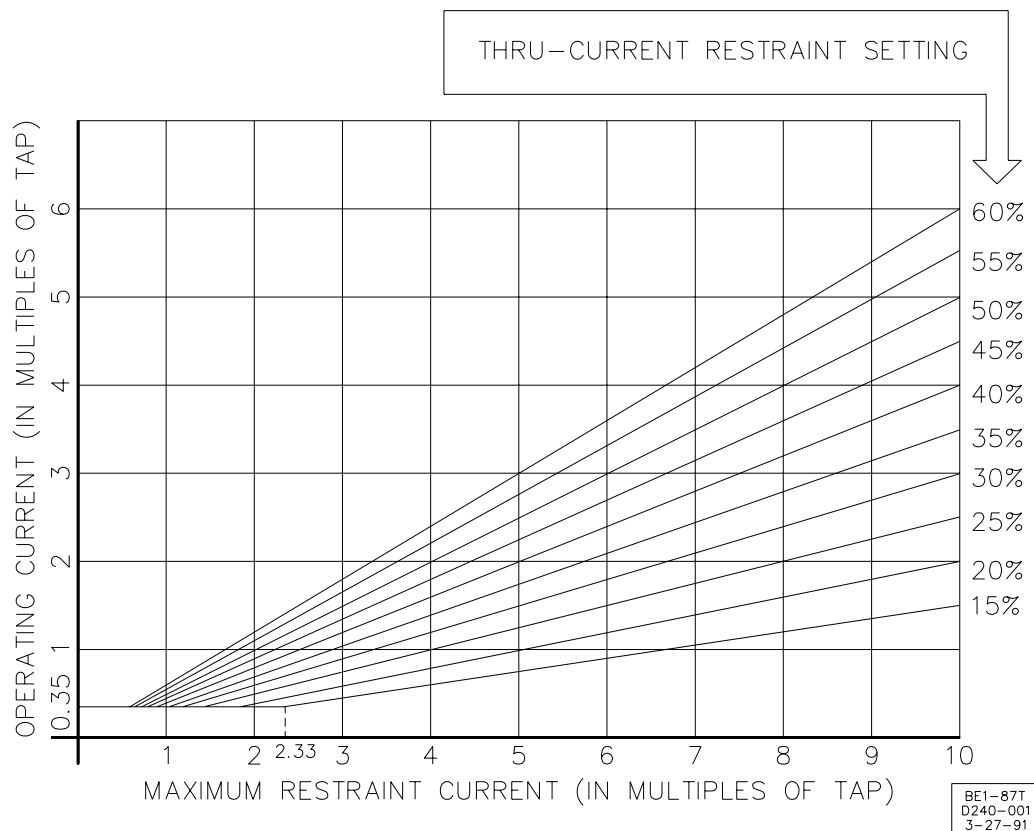

Figure 1-2. Percentage Restraint Characteristic
0.35  $\pm 6$  % of tap setting. Refer to Table 1-1 and Figure 1-2. Table 1-1 provides calculated intersection points of the slope characteristic and the minimum pickup (in multiples of tap) as shown in Figure 1-2. The calculation was derived from the formula:
The relay operates when the per unit difference current (operating current) is above the 0.35 pu or the slope line in Figure 1-2. Calculation examples are found in Section 5.